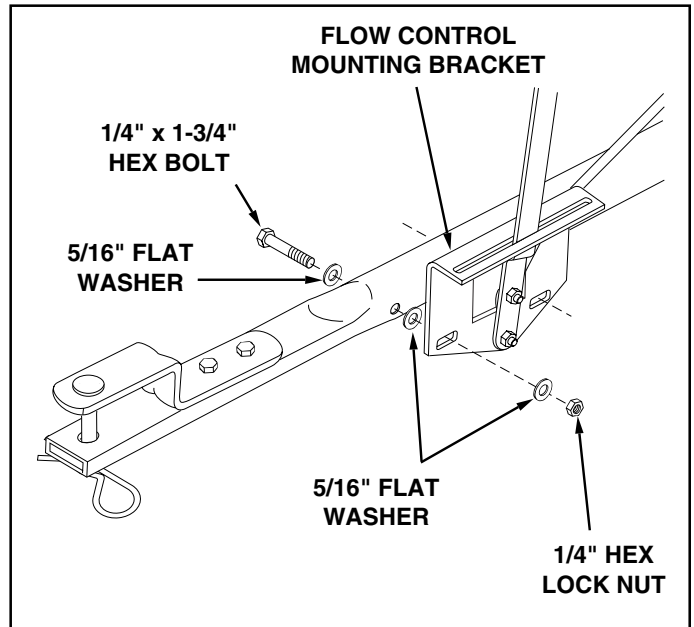

FIGURE 10
19. Assemble the flow control mounting bracket to the hitch tube using two 1/4" x 1-3/4" hex bolts, six 5/16" flat washers and two 1/4" hex lock nuts as shown in figure 10. Do not tighten at this time.